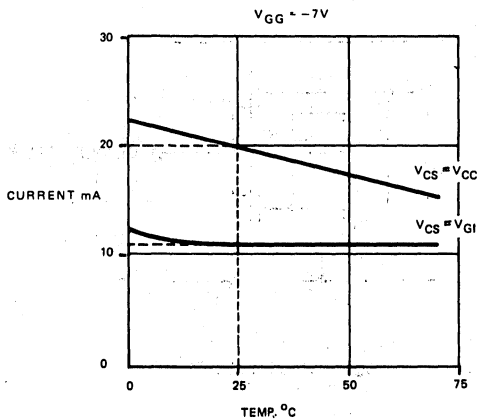

Fig. 9
- See also Typical 7-Segment Output Curves, Figs. 9, 11, & 13 (-12V ±1V)